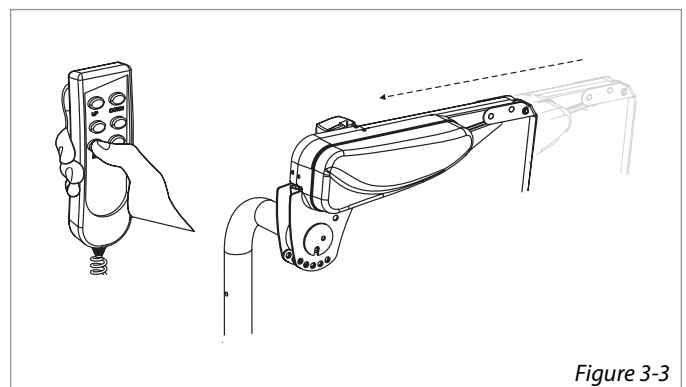

Figure 3-3
**NOTE:** On **AL435** series lifts, you can press the `RETRACT` button to shrink the radius for rotating into the vehicle. This is especially helpful for wider chairs or scooters and for narrower rear vehicle openings. [Figures 3-3]